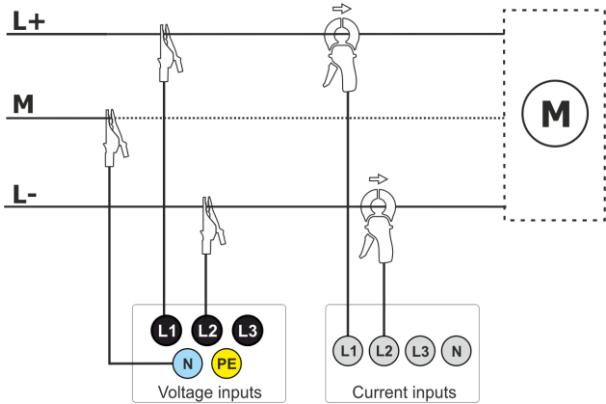

Fig. 26. Wiring diagram – DC+M system (bipolar).
- DC+M – two-voltage DC system with middle point (Fig. 26)